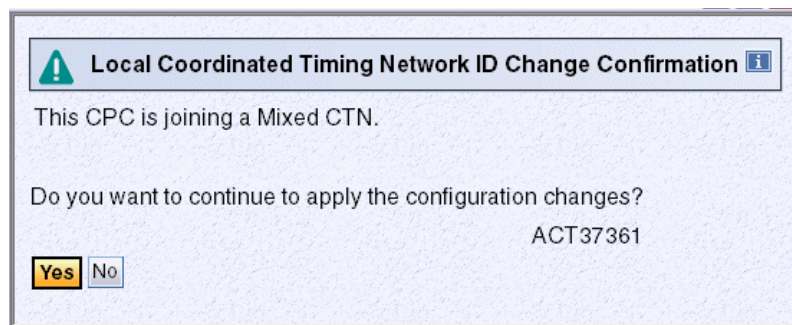

Figure 12-12 Message ACT37361 - Local Coordinated Timing Network ID Change (H40)
4. Click **Apply**. This displays the Local Coordinated Timing Network ID Change Confirmation, message ACT37361 (Figure 12-12).